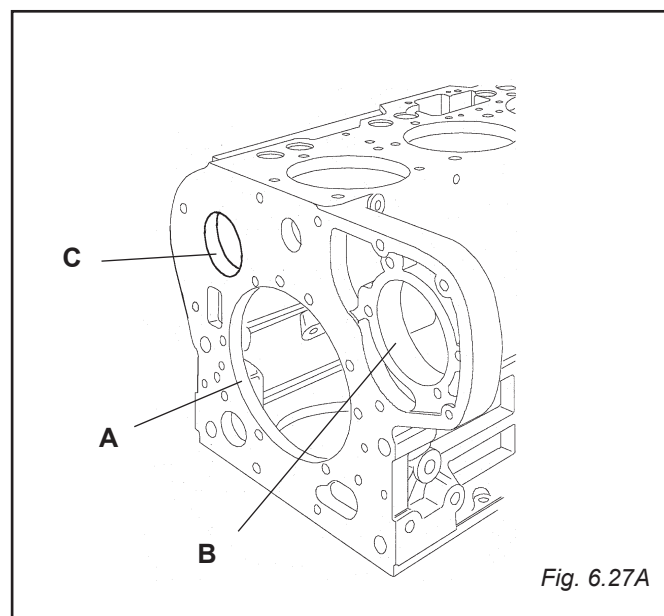

Fig. 6.27A
6.18 CRANKCASE (FIG. 6.27A - 6.27B)